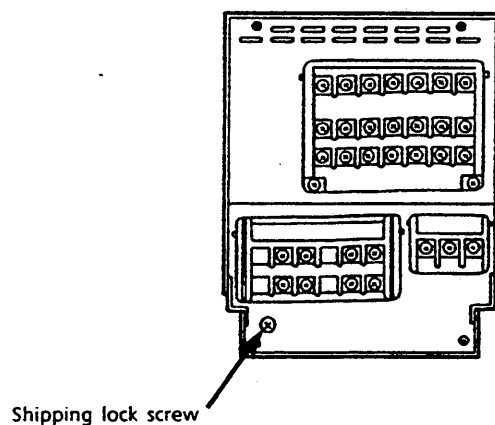

Figure 1.3
- (2) Remove all packing.
- (3) Remove a shipping lock screw on the bottom of the rear panel. The lock screw removed should be kept a safe place (See Figure 1.3).